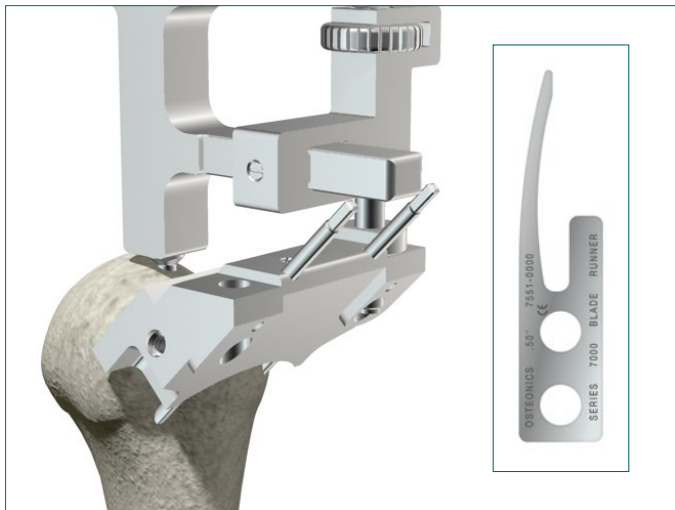

Figure 11
- ▶ It is recommended that the resection level be confirmed by sliding the bladerunner instrument through the cutting block's captured cutting slot and assessing the planned thickness and plane of resection [Figure 11].
- ▶ Using the headless pin driver attachment or pin collet, drive two (2) straight pins into the Resection Guide Block.
- ▶ With the Superior Humeral Resection Guide Block pinned to the humerus with two (2) straight pins, depress the plunger (blue arrow) then pull the Resection Guide assembly and Starter Awl/reamer from the IM canal in one piece (red arrow), leaving only the Superior Resection Block behind.